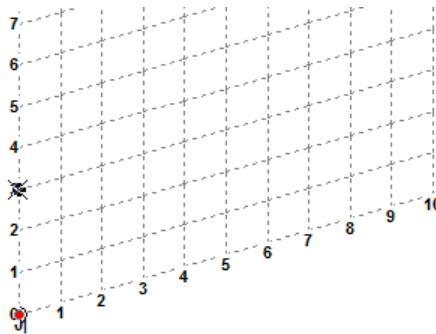

Figure 2-28 Node 1 created at the origin
Step 4: Place the cursor at the origin and click; node1 is created and a member is attached to the cursor, refer to Figure 2-28.